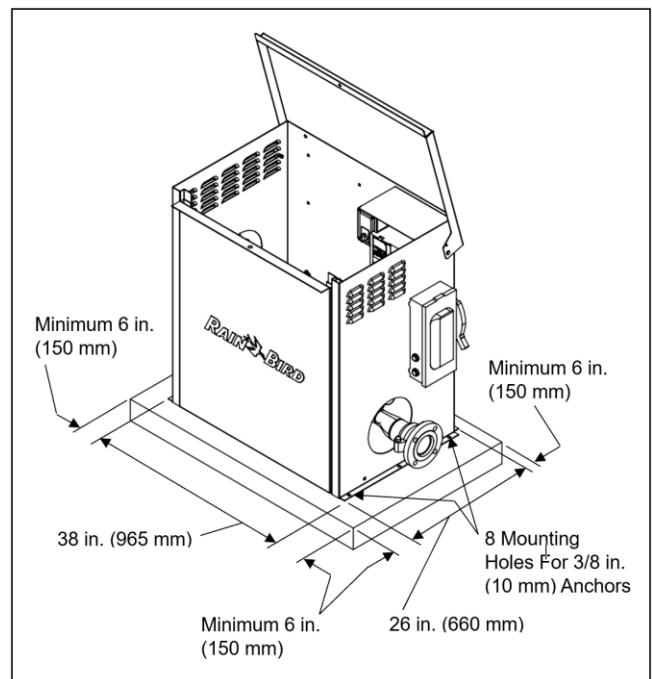

Figure 5-1. Location Of Pump Station On Slab.
1. The pump station must be anchored to a concrete slab. The concrete slab must be a minimum of 6 inches (150 mm) larger than the pump station base on all sides. The footprint of the pump station base is 38" (965 mm) x 26" (660 mm). See Figure 5-1. The concrete slab must be as flat and level as possible. Follow all local, state, province and national construction codes for sub-base, thickness and reinforcement of the concrete slab.